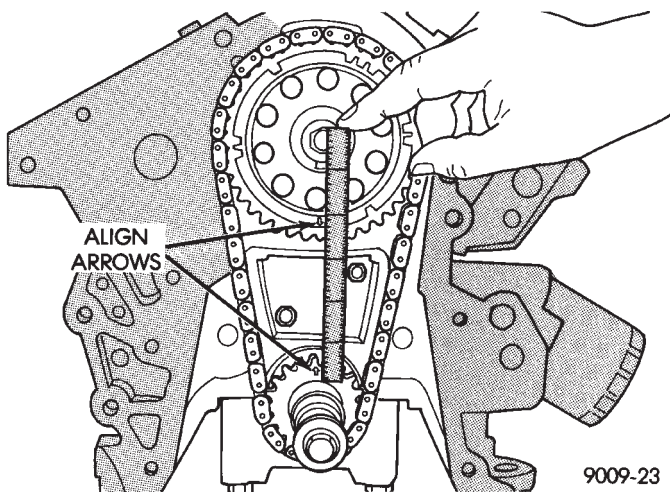

Fig. 5 Alignment of Timing Marks
- (9) Place timing chain around camshaft sprocket and place the timing mark to the 6 o'clock position.
- (10) Place timing chain around crankshaft sprocket and install camshaft sprocket into position.
- (11) Using straight edge to check alignment of timing marks (Fig. 5).
- (12) Install camshaft bolt and washer. Tighten to 47 N•m (35 ft. lbs.).
- (13) Rotate crankshaft 2 revolutions. Timing marks should line up. If timing marks do not line up remove cam sprocket and realign.
- (14) Check camshaft endplay. With new thrust plate specification is .0127 to .304 mm (.005 to .012 inches). Old thrust plate specification is .31 mm (.012 inch.) maximum. If not within these limits install new thrust plate.
- (15) Install timing chain snubber. Tighten retaining screws to 12 N•m (105 in. lbs.). **These bolts are 20mm long for this model year, they should not be interchanged with previous year engines.**